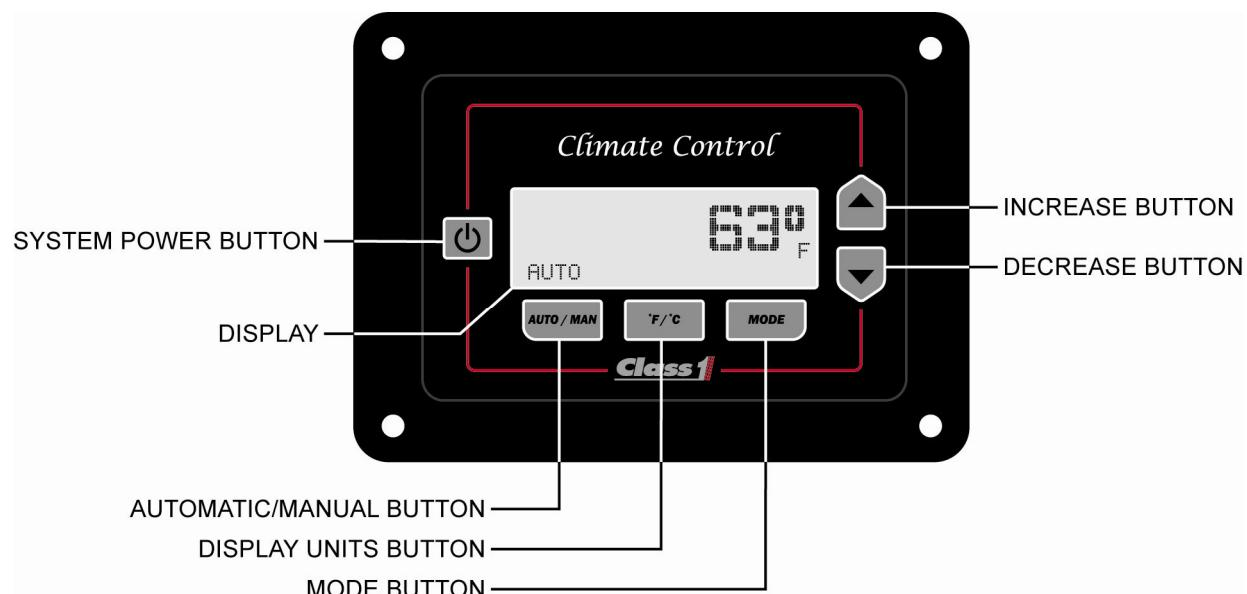

Figure 1. Climate Control Display identification
The Climate Control Display (Figure 1) has a display (4 lines, 20 characters each) and six (6) buttons.